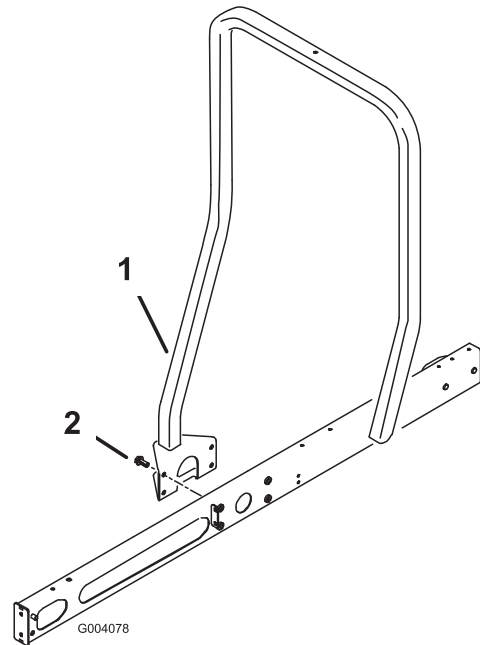

Figure 14
3. Secure each side of the roll bar to the frame with 4 flange head bolts (1/2 x 1-1/4 inches) as shown in Figure 14. Torque the bolts to 70-80 ft-lb.